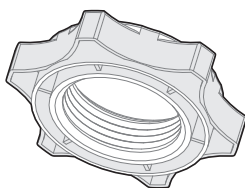

Fig.3
4. Fix the fan body on the base with the plastic nut. (See Fig. 3)